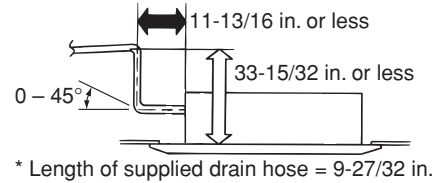

Fig. 3-42
- In cases where it is necessary to raise the height of the drain piping, the drain piping can be raised to a maximum height of 33-15/32" above the bottom surface of the ceiling. Under no conditions attempt to raise it higher than 33-15/32" above the bottom surface of the ceiling. Doing so will result in water leakage. (Fig. 3-42)